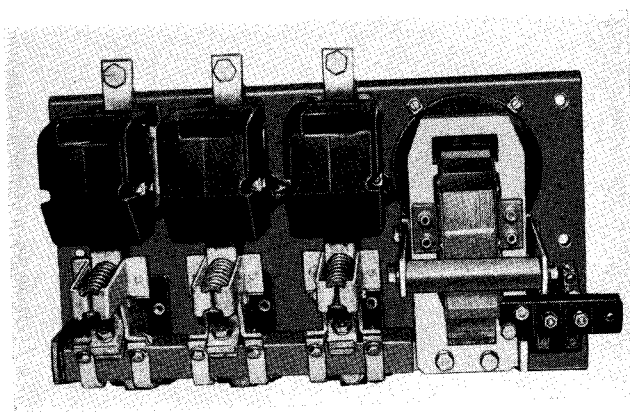

FIG. 1. Type GP-530 Front Connected Contactor
**Electrical Interlocks.** The Type GP Size 5 Contactor will accommodate a total of three type L-60 electrical interlocks. Two such interlocks are shown mounted on the contactor pictured in Figure 1. The interlocks may be converted from normally-closed to normally-open circuit action or vice versa without adding parts. Instruction Leaflet I.L.-15829.